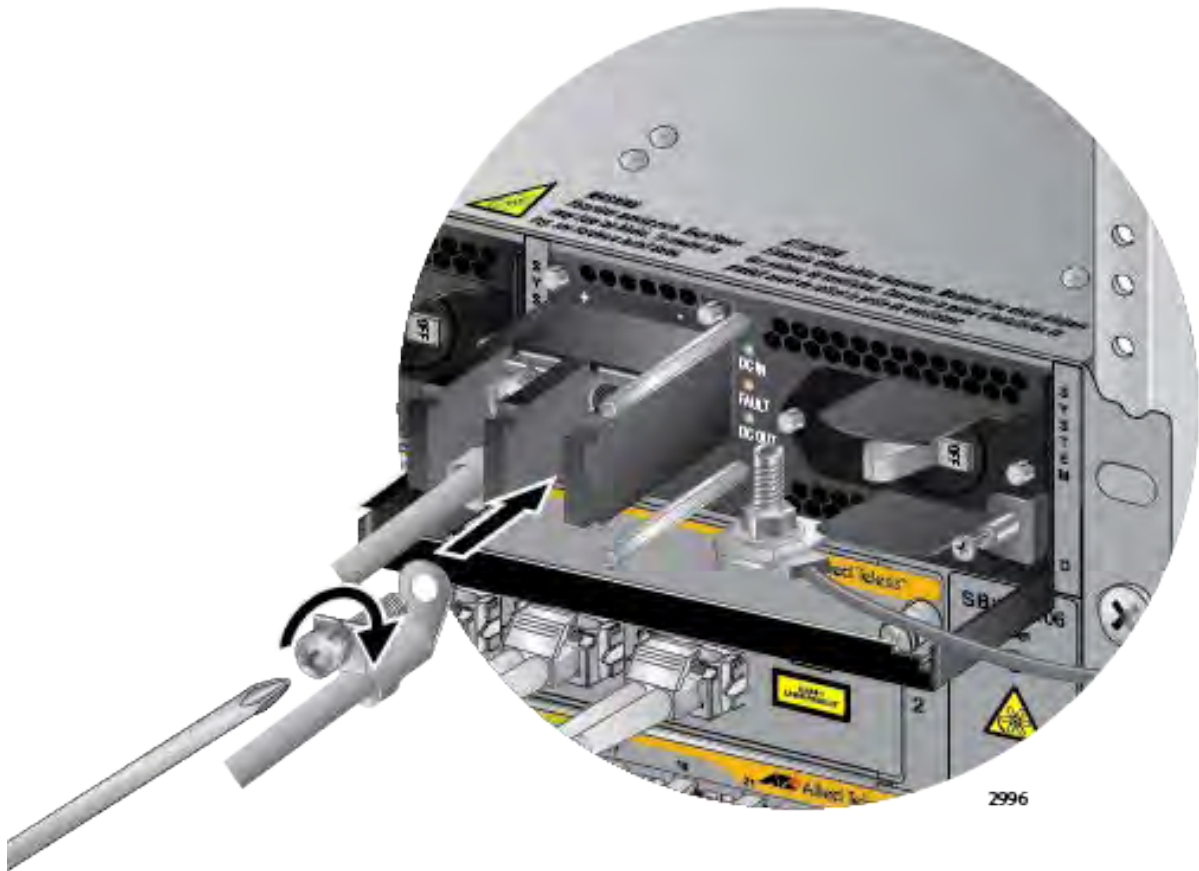

Figure 149. Connecting the Negative (-) Power Wire with a Right Angle Terminal
7. With a #3 Phillips-head screwdriver, connect the negative (-) power lead wire to the negative terminal on the power supply, with the remaining terminal screw removed in step 5. The negative terminal is on the right. Refer to Figure 149 on page 225.